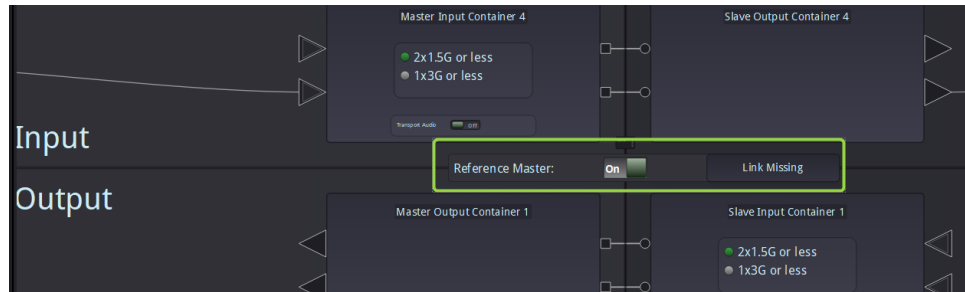

Figure 1
4. Zoom in and set the parameter "Reference Master" to "ON" as shown in Figure 1 below.
2. Select the GreenMachine set as reference Master (Figure 1)